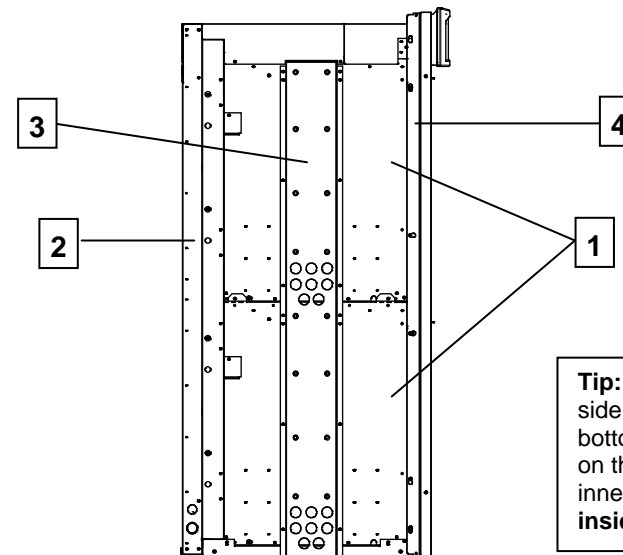

Figure 10
11. Reinstall side wraps (1), rear support (2), install new vent cover (3), and reinstall side trim (4) as shown in Figure 10.